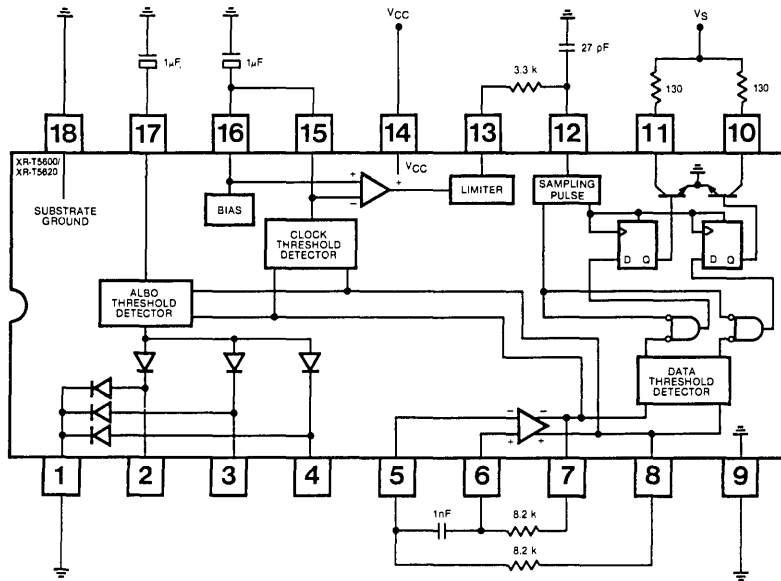

Figure 2. D.C. Parameter Test Circuit
GENERAL (Ref. Figure 2)
AMPLIFIER (Ref. Figure 2, Only Pins 1, 9, 10...18 connected)
CLOCK AMPLIFIER (Ref. Figure 2, Disconnect Pin 15 from Pin 16)
ALBO (Ref. Figure 2)
2. At 1 MHz, use Figure 2